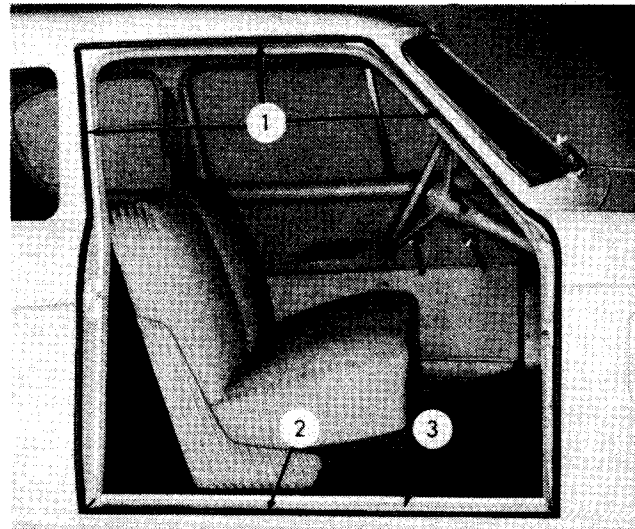

FIG. 2
2. Pull the door opening upper and side weather strip (1, Fig. 2) out of the channel and pull the lower weather strip (2) out from the door sill plate (3).